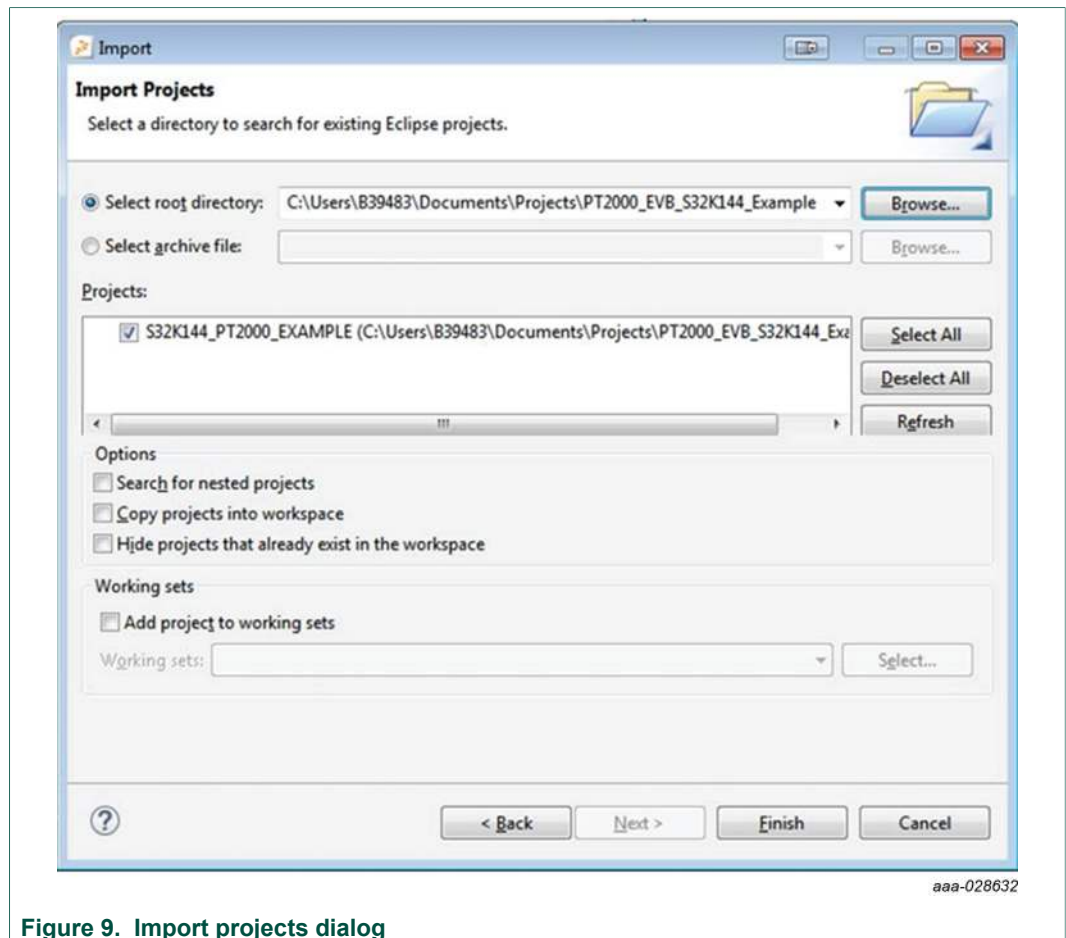

Figure 9. Import projects dialog
4. In the **Import Project** window, browse for and select the root directory containing the example file. In the **Projects** panel, select the example file. Then click **Finish**. See Figure 9.